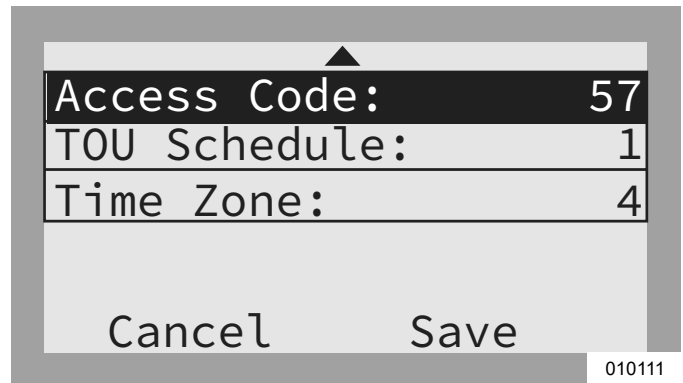

Figure 6-16. Configuring TOU Schedule (3 of 4)
3. See **Figure 6-16**. Use the up and down arrows to highlight Access Code and press the center button to select.